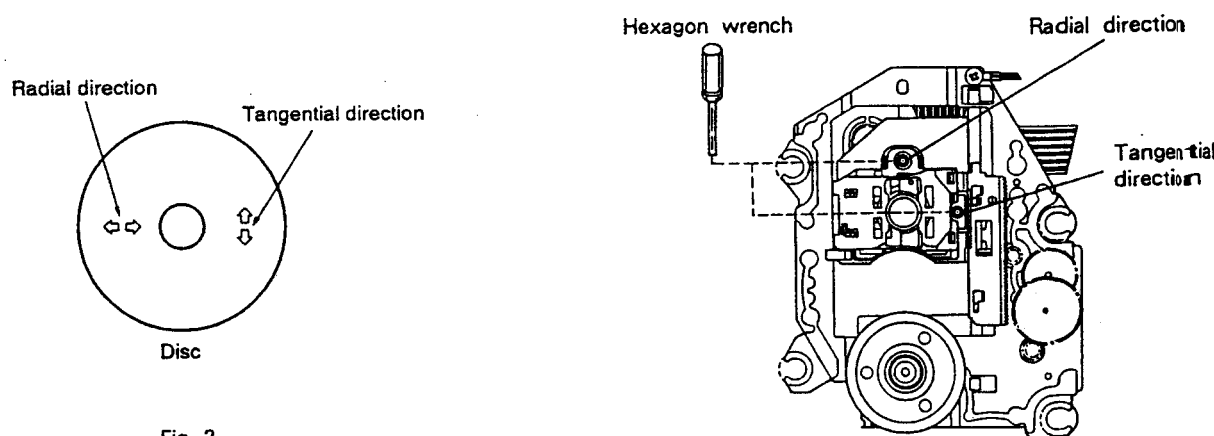

Fig. 2
*Note: Radial and tangential mean the directions relative to the disc shown in Fig. 2.*